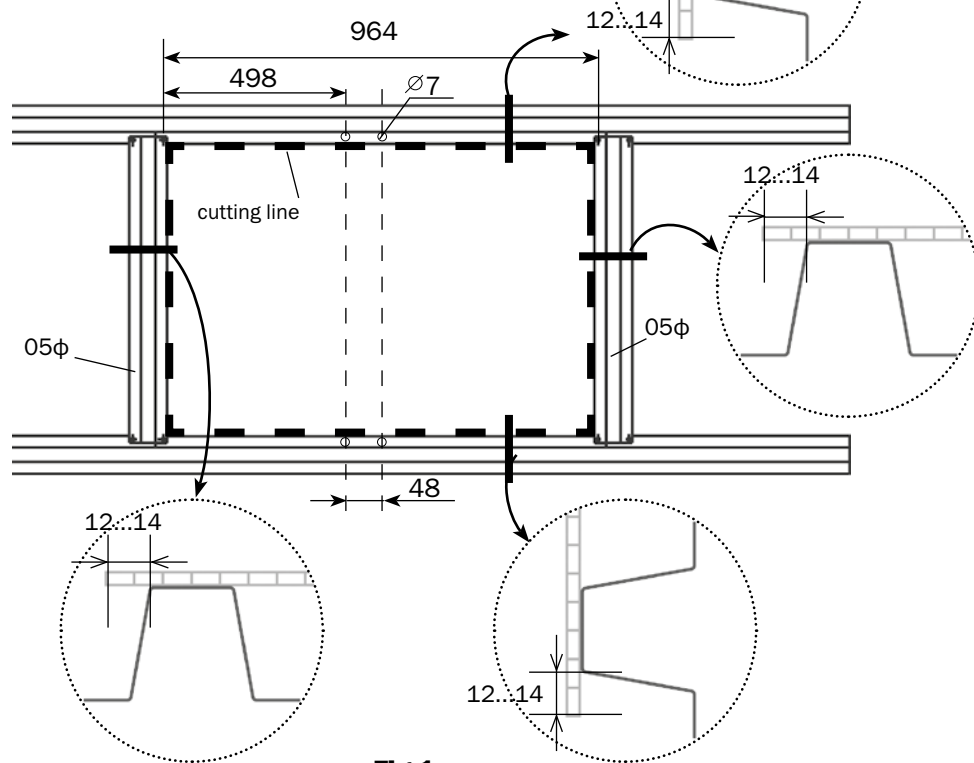

Fig.1
1. Determine the place of the vent sash. Install two guides 05ϕ (fig.1) in the chosen place. The guides 05ϕ are installed on the beams in the pre-drilled holes of the greenhouse.
2. Cut the window aperture (fig.1) for the vent sash on the edges of the profile. Tape the top and bottom cuts of the polycarbonate.
- Drill 4 holes 7 in the beams (fig. 1).